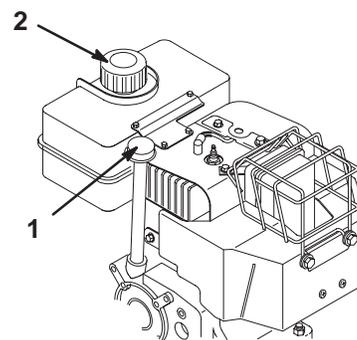

Figure 18
2. Clean around the dipstick (Fig. 18).
3. Remove the dipstick by rotating the cap counterclockwise and pulling it out (Fig. 18).
1. Clean around the fuel tank cap (Fig. 18).